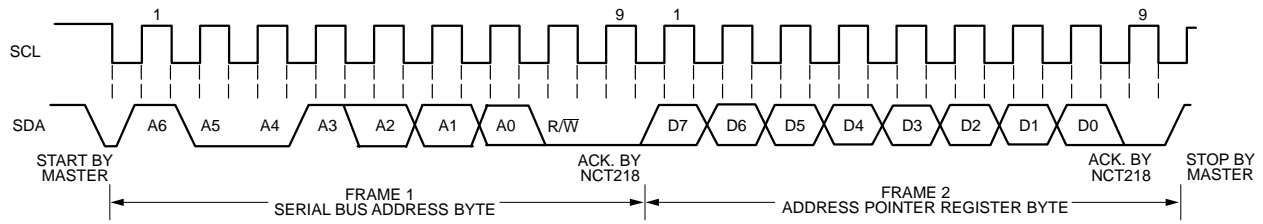
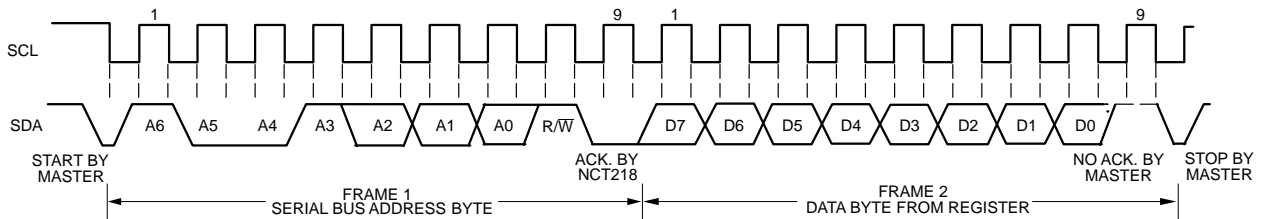

Figure 5. Writing to the Address Pointer Register
Figure 7. Reading a Byte of Data from a Register
This procedure is illustrated in Figure 5. The device address is sent over the bus followed by R/W set to 0. This is followed by two data bytes. The first data byte is the address of the internal data register to be written to, which is stored in the address pointer register. The second data byte is the data to be written to the internal data register.
- If the address pointer register value of the NCT218 is unknown or not the desired value, it is first necessary to set it to the correct value before data can be read from the desired data register. This is done by writing to the NCT218 as before, but only the data byte containing the register read address is sent, because data is not to be written to the register see Figure 5. A read operation is then performed consisting of the serial bus address, R/W bit set to 1, followed by the data byte read from the data register see Figure 7.